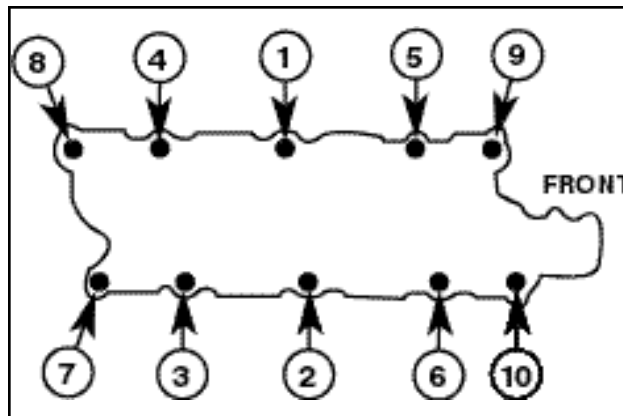

Figure 1
1. Torque all bolts to 15-18 ft/lbs. See Figure 1 for proper sequence.